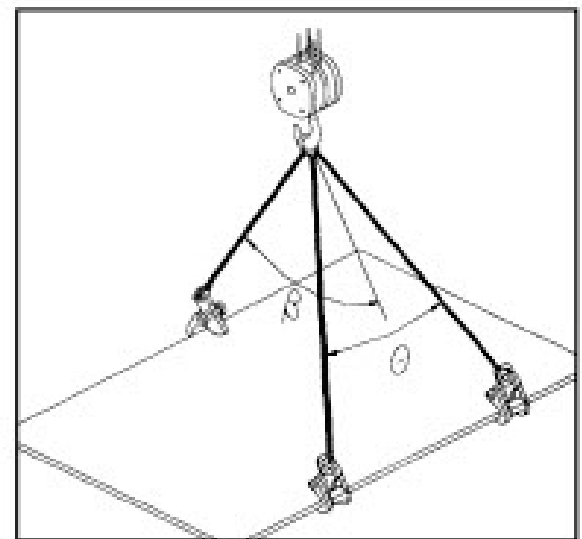
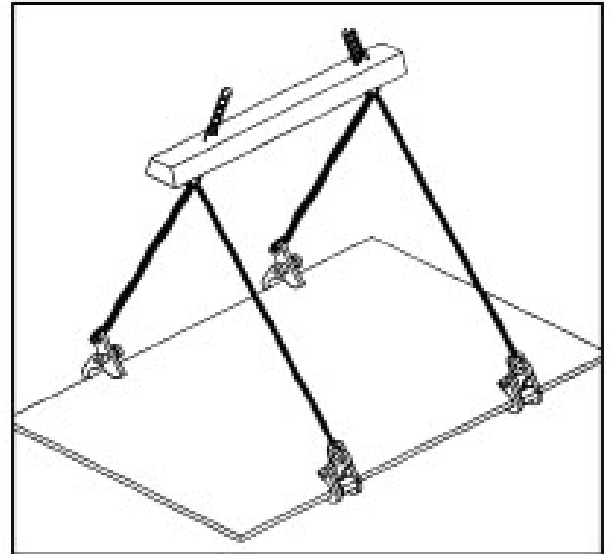

Figure 42
Figure 43
- B. The lifting angle (Fig. 42) between the sling legs on opposite sides of the load should be less or equal to 60 degrees ( $\beta \leq 60^\circ$ ). The lifting angle between the sling legs on same side of the load should be less or equal to 20 degrees ( $\theta \leq 20^\circ$ ).
- C. The Working Load Limit of any multiple sling assembly (Fig. 42) or spreader bar assembly (Fig. 43) must not be more than the combined Working Load Limit of two clamps, regardless of the number of clamps in the assembly.
Position the clamp(s) to balance the load. Position the clamp(s) so the lifting force of the crane is directly in line with each clamp's lifting shackle, and the load is evenly distributed (Fig. 43).